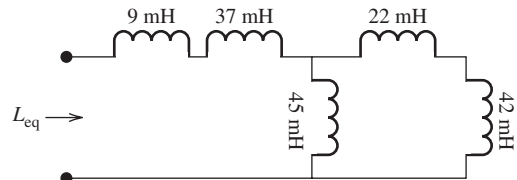

FIGURE P4.44 Circuit for Problem 4.44.
4.44 (B) For the inductor network in Figure P4.44, what is the equivalent inductance, L_{eq} ?